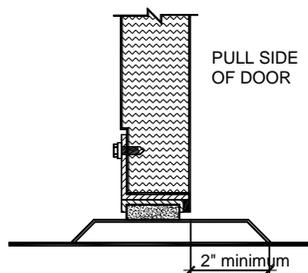

FIGURE 5
**C.** Install the L-Frame door bottom seal (**Fig. 5**) with the 1/4-20 machine bolts provided and then adjust it to the highest position. At this point, all other mortised and surface applied hardware supplied by others can also be installed. Note that heavy duty offset hardware mounting brackets (**Fig. 6**) are provided for all hardware intended to be mounted to the frame stop. No hardware should be mounted directly to the seal assembly. Prior to installation of perimeter seals, check the door for proper clearances (1/8" at edges, meeting stiles and top). The weight of these doors often requires minor shimming of hinges in order to square them in the opening and slotted metal shims which can be placed under the hinge are provided for this purpose.